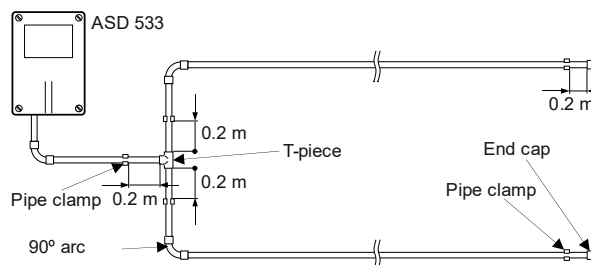

Fig. 22 90° bend, branching point
- A distance of at least 0.2 m must be maintained from the T-piece to the pipe clamps, starting from the branching points of the sampling pipe, **Fig. 22**.
- For changes of direction in the space surveillance, it is advisable to use 90° bends rather than 90° angles, **Fig. 22** (see also Sec. 4.4.2).